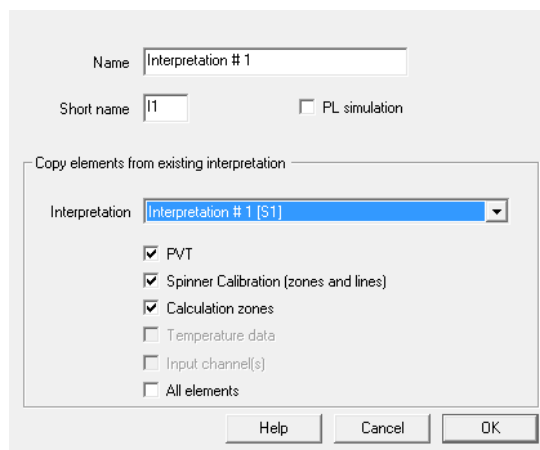

Fig. B02.19 • initializing the Production #1 interpretation
- Select Interpretation#1[S1] in the list, i.e. the shut-in interpretation and leave all the boxes checked, Fig. B02.19: